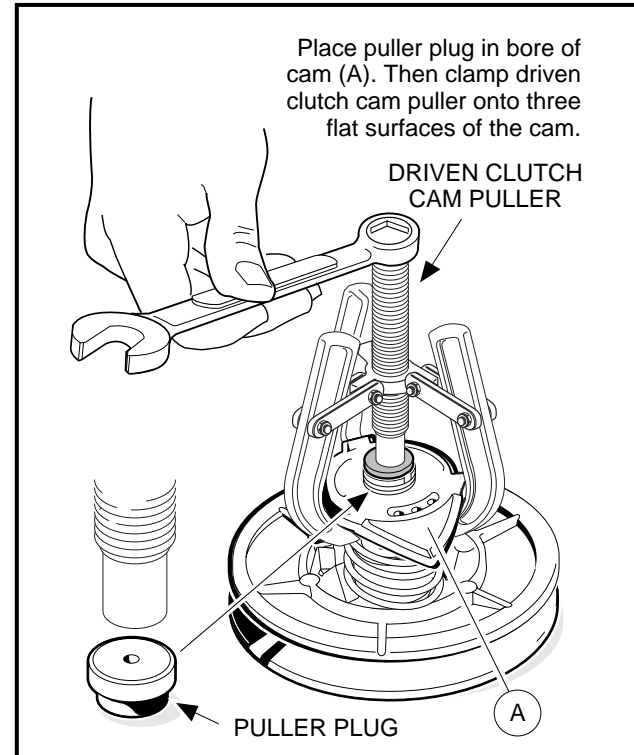

Figure 17-18 Driven Clutch Disassembly
2. Insert a puller plug (CCI 1014507) (**Figure 17-18, Page 17-14**) into the shaft bore and use a driven clutch cam puller (CCI 1014508) to remove the cam (4) from the fixed face shaft (8) (**Figure 17-16, Page 17-12**).